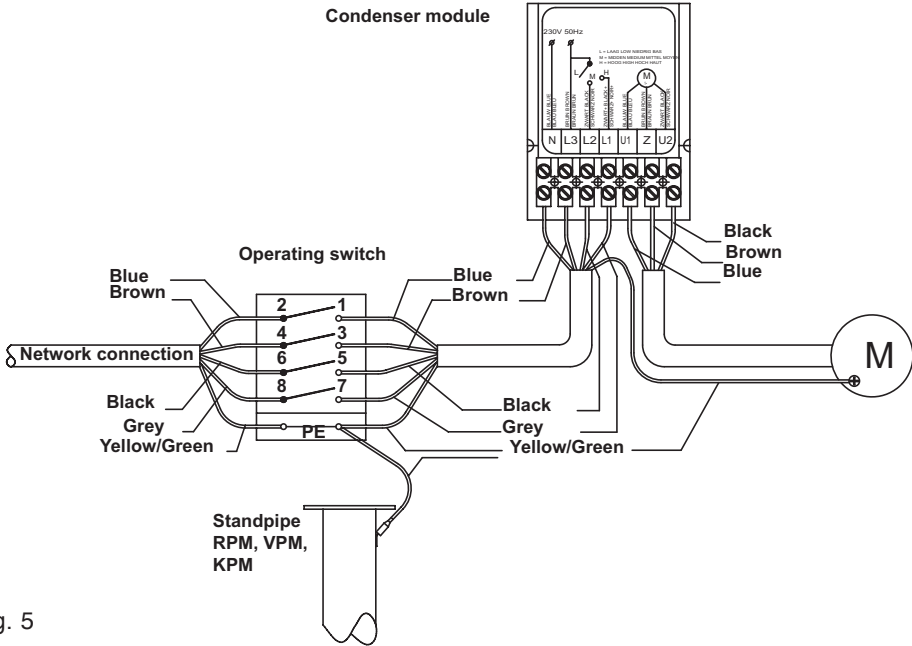

fig. 5
- 4 Remove the wire (grey) from connector "L1" and insert it into connector "U1", (see diagram fig. 5).
#### **(diagram fig. 5)**